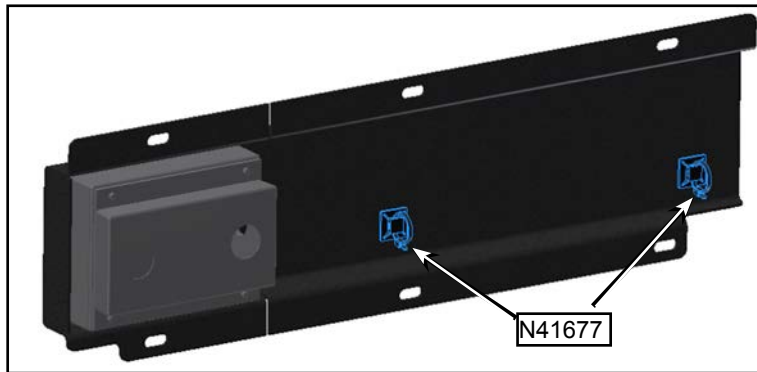

Figure 3 - N41677 Cable Tie Mounting Base Installation
- 1.7. Install N41677 (2x) cable tie mounting bases on the N81901 bracket. See Figure 3.